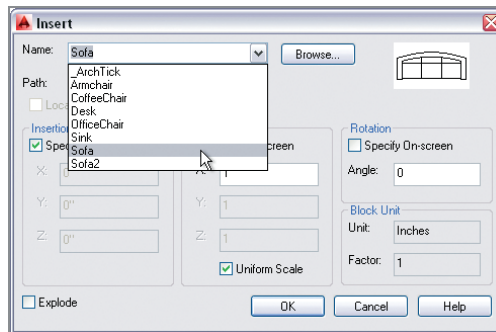

FIGURE 9.11 Examining the preview of the local block definition in the Insert dialog box
5. Click the Insert tool in the Block panel. Open the Name drop-down, and select Sofa in the list. The preview image in the upper right shows that the local block definition is based on the curved-back design (see Figure 9.11).